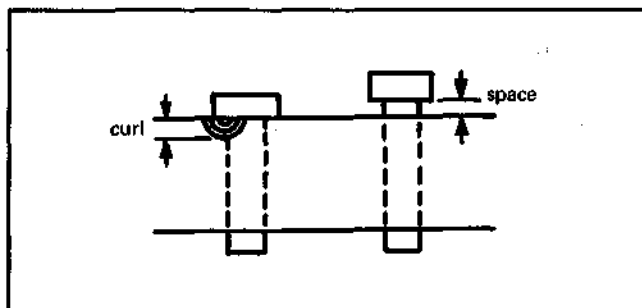

Fig. 3-16
10) Turn No. 4 guide clockwise while observing No. 5, No. 6 guide flange sections with a dental mirror, and check that curl and spaces are within the specifications. (Fig. 3-16)